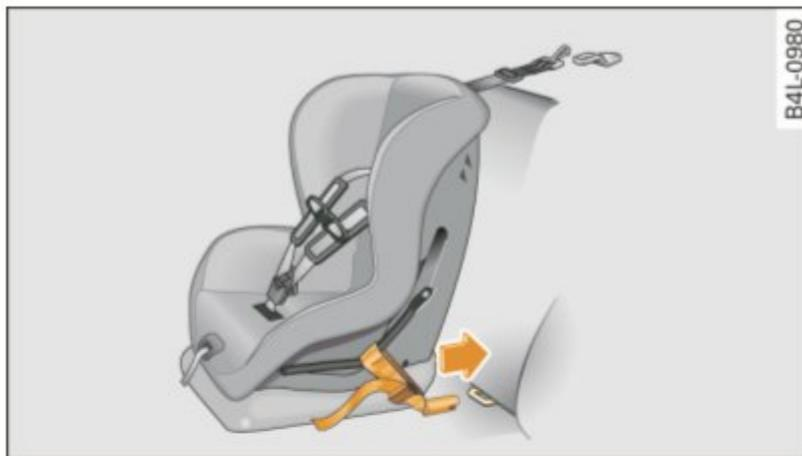

Fig. 186 Lower anchorages: proper mounting
- Attach both hook-on connectors with the spring catch release on the child safety seat onto the LATCH lower anchorage so that the connectors lock into place ⇒ fig. 186.